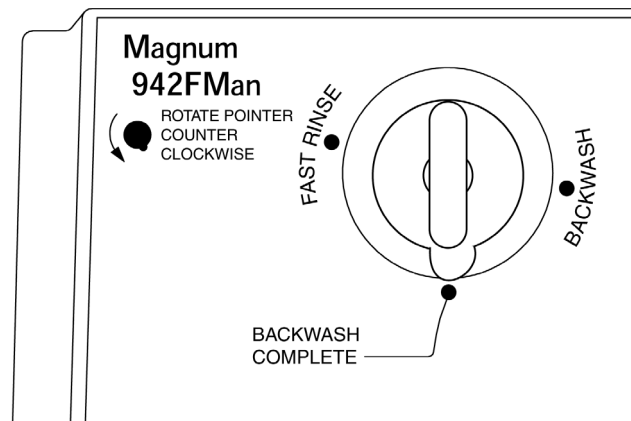

Figure 5.8
3. After the fast rinse is complete, return the filter to service by rotating the indicator knob COUNTERCLOCKWISE to the **Backwash Complete** position (Figure 5.8).